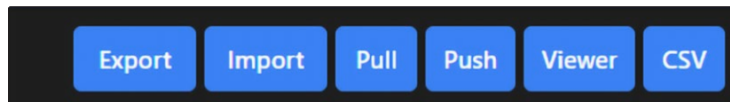

Figure 55
5. Chart data can be manipulated by stacking and overlaying. Data can also be exported by clicking the **Export** button at the top of the screen. See Figure 55.
6. If you are building this configuration from your PC, once complete, click the **Push** button at the top of the screen. This will load the chart into the ACM-4000 so it can be viewed on the 7" display. See Figure 55.